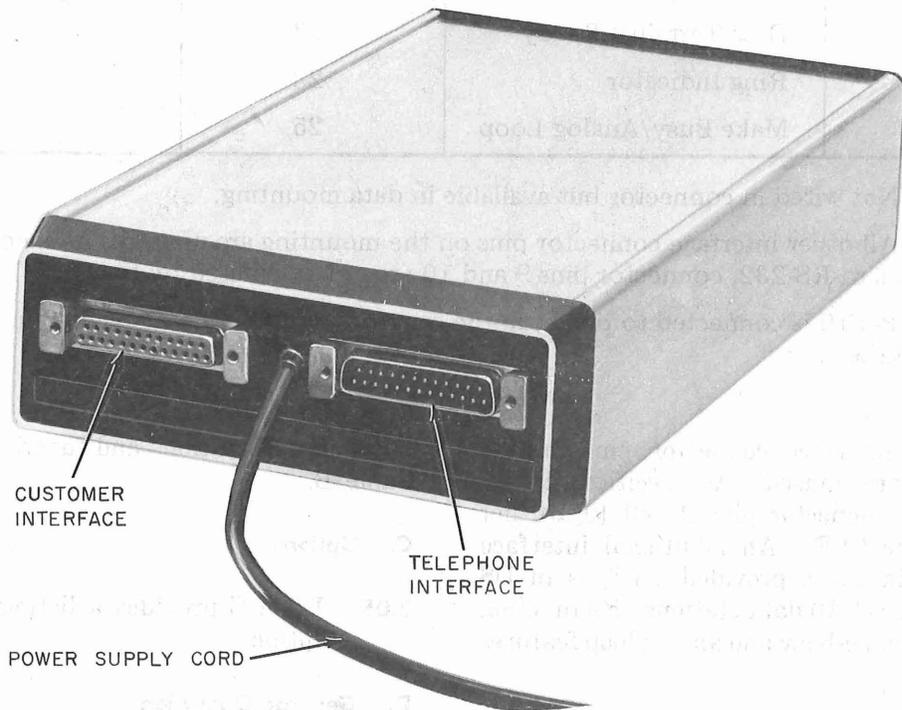

Fig. 5—DS 113D-L1/2—Rear View
3.02 The customer interface conforms to EIA Standard RS-232-C. The 25-pin female connector is not part of the data set card but is provided on the mounting (Fig. 5). The connector pin designations and functions are listed in Table A.
3.04 A plug is provided on the mounting for all telephone company connections (Fig. 5). The